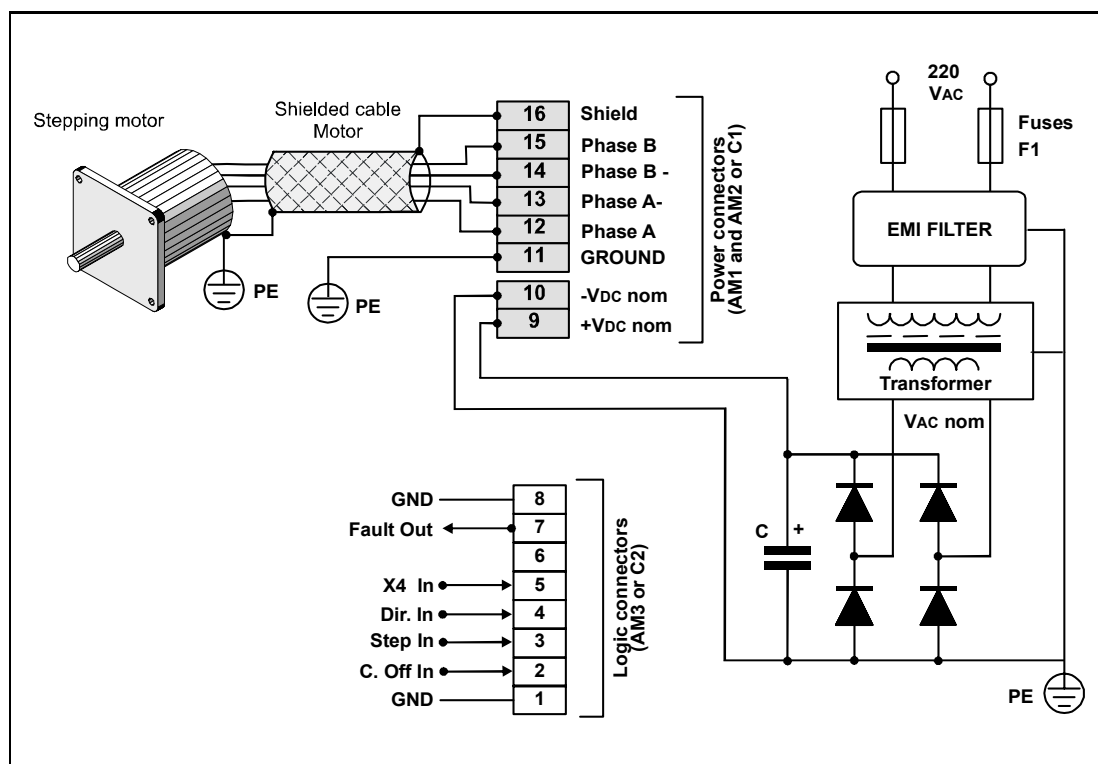
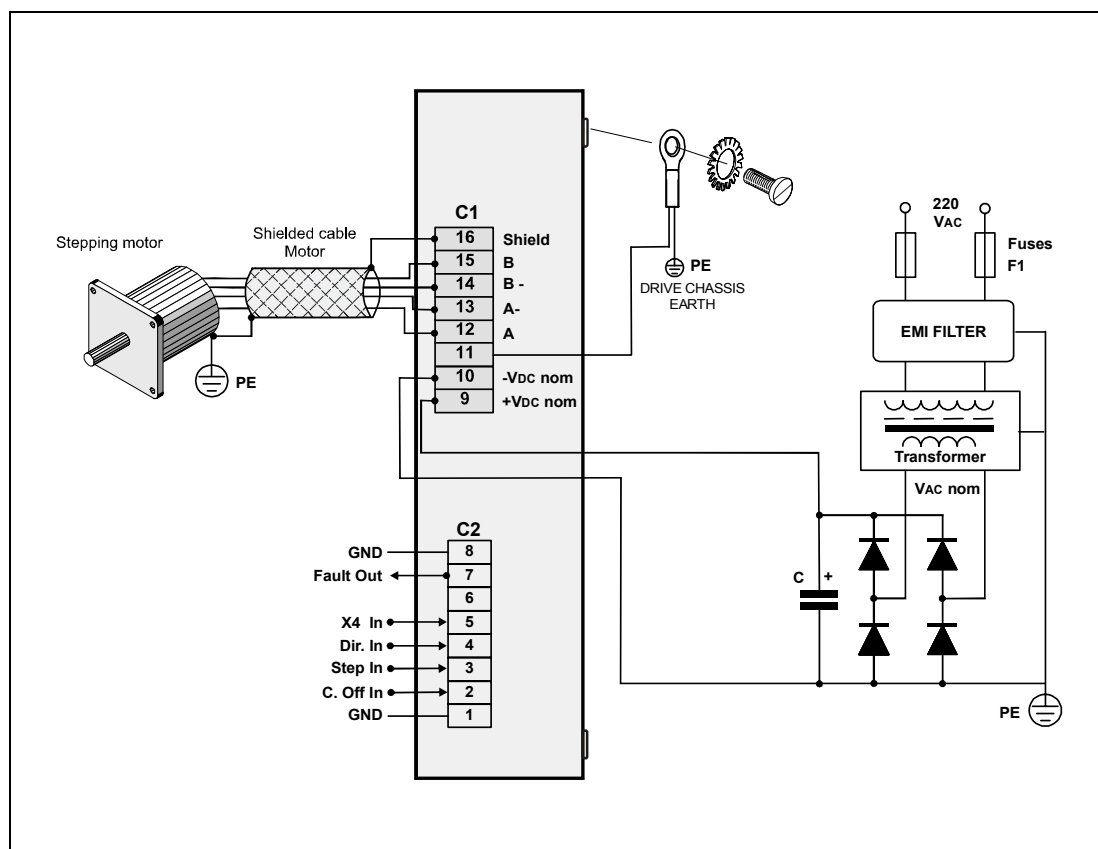

Fig. 2a - Drive external connection scheme for CSD 02, CSD 02.V, CSD 04, CSD 04.V.
Fig. 2b - Drive external connection scheme for CSD 92 and CSD 94.
- Connection made to Protective Earth terminal (PE), shown in Fig.2a e Fig. 2b, must be short and have the lowest possible inductance.
It is possible to use a switching power supply instead of a traditional power supply indicated in Fig. 2a and Fig. 2b, provided that you have a capacitor of at least 1000  $\mu$ F on the output line of power supply. This capacitor should be located at a distance not greater than 1 - 2 meter from Vdc input of the drive. The purposes of the capacitor are: